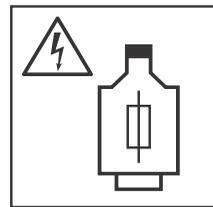

Fig.: 11
2. Allow for fuses for each individual phase (fig.11, See Pg 10)
- Allow for fuses for each individual face (Fig. 11).